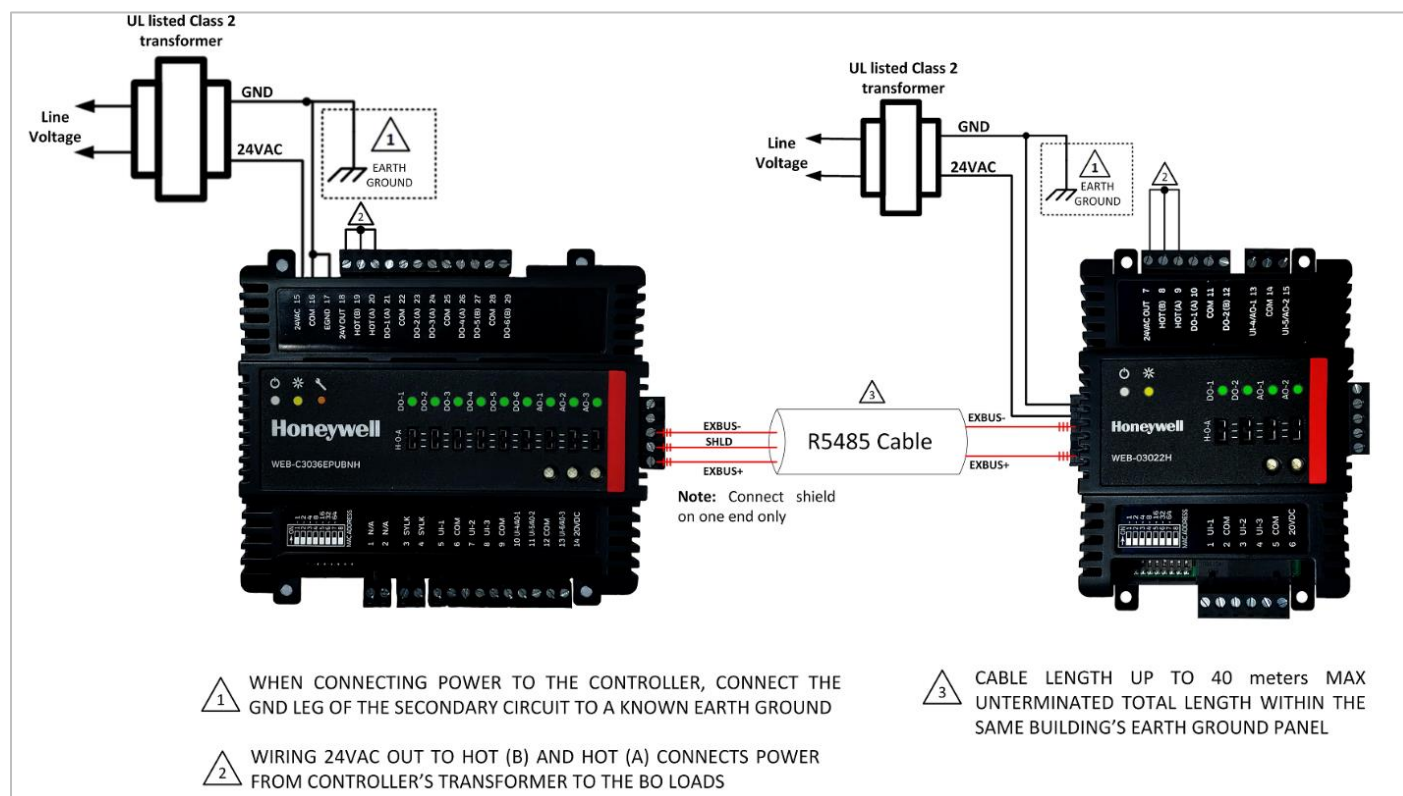

Figure 2: Remotely power wiring connection for CIPer Model 30 Controllers and EXPIO
5. Both Expansion I/O modules WEB-03022H and WEB-09056H can be connected directly to the WEB-C3036EPVBNH controller as shown in Fig. 2.